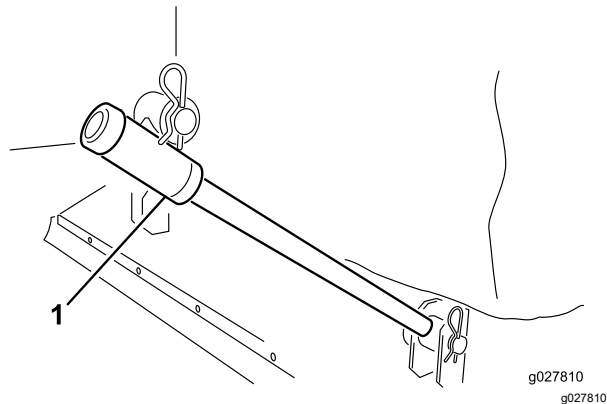

Figure 2
2. Slide the tow arms onto the frame pins. Secure each tow arm to the frame pin with a washer and hairpin cotter (Figure 2).